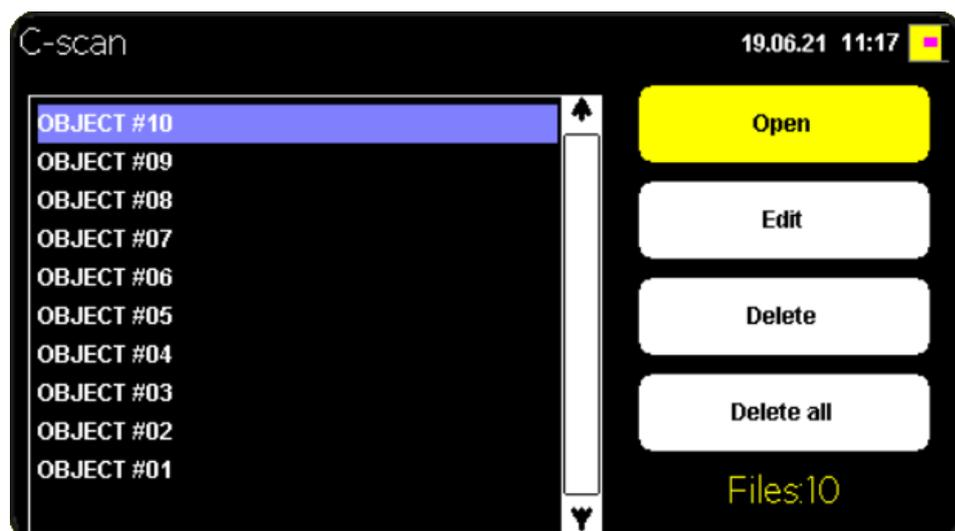

Figure 3.15 – Open inspections window
3.4.5.1 This item enables to open the previously saved inspection results. If necessary, the user can repeat measurements for any point in the previously saved archive. The window for selecting a previously saved archive is shown in Figure 3.15.